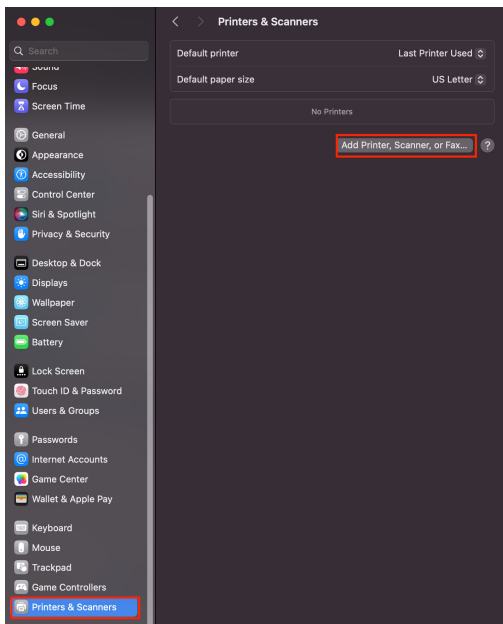

Figure 34
2. Navigate to **Settings** and select **Printers & Scanners** on the left (Usually near the bottom) and click **Add Printer, Scanner, or Fax....** (Figure 34)